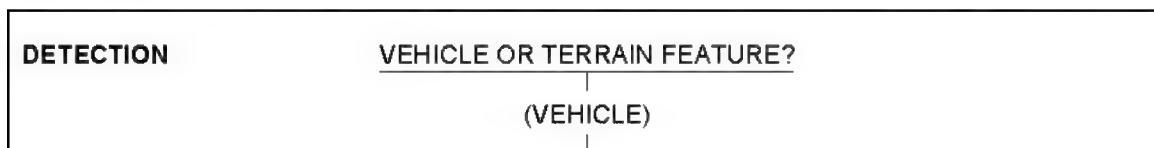

Figure E-41. Target acquisition—detection.
b. **Target Detection.** The first step in the target acquisition process is target detection (Figure E-41). During this step, the gunner scans his sector of fire to find or acquire a target using the CLU, mainly the NVS. Some techniques that help detect targets are discussed below.